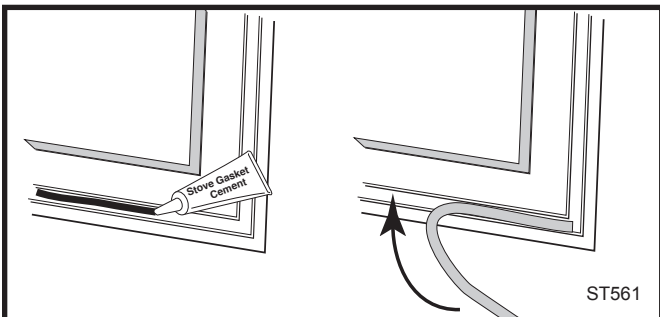

Fig. 30 Lay a bead of gasket cement then press new gasket in place.
5. Lay an unbroken 3 mm (1/8") bead of gasket cement in the newly-cleaned channel. Starting at one end, press the gasket into the channel. Ensure a good joint where the gasket meets before trimming any excess. Do not overlap the gasket ends or leave ends with ragged edges. (Fig. 30)